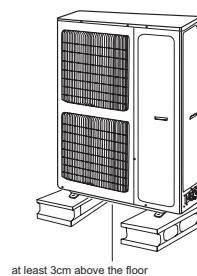

Fig.18
- (1) Take sufficient protective measures when installing the outdoor unit.
- (2) Make sure the support can withstand at least four times the unit weight.
- (3) The outdoor unit should be installed at least 3cm above the floor in order to install drain joint. (As show in Fig.18)
- (4) For the unit with cooling capacity of 2300W~5000W, 6 expansion screws are needed; for the unit with cooling capacity of 6000W~8000W, 8 expansion screws are needed; for the unit with cooling capacity of 10000W~16000W, 10 expansion screws are needed.